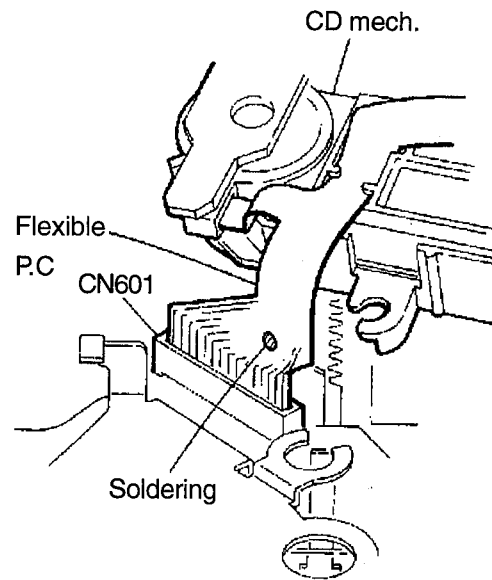

Fig.5
9. By soldering, fill the position (in Fig.5) of the flexible P.C.board outgoing from the CD mechanism.
10. From the connector CN601 on the CD traverse mechanism control & servo P.C.board, remove the flexible P.C.board (See Fig.5).